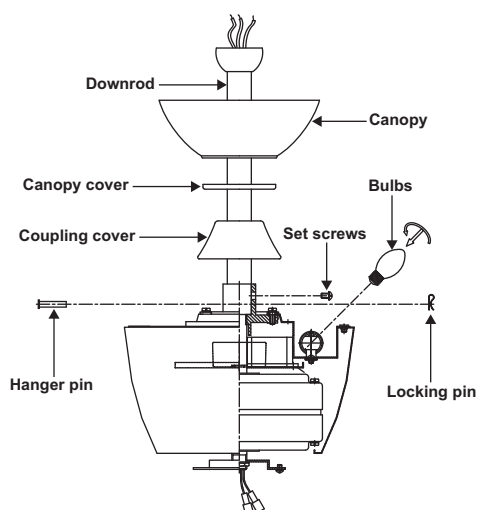

Figure 7
Step 6. Route wires exiting from the top of the fan motor through the coupling cover, canopy cover and canopy, then through the ball/downrod. (Fig. 7)
Step 7. Align the holes at the bottom of the downrod with the holes in the collar on top of the motor housing (Fig. 7). Carefully insert the hanger pin through the holes in the collar and downrod. Be careful not to jam the pin against the wiring inside the downrod. Insert the locking pin through the hole near the end of the hanger pin until it snaps into its locked position, as noted in the circle inset of Fig. 7.
Step 8. Tighten two set screws on top of the fan motor firmly. (Fig. 7)
Step 9. Install 4 x 15W candelabra bulbs (included) to the bulbs holders in the upper motor housing. (Fig. 7)